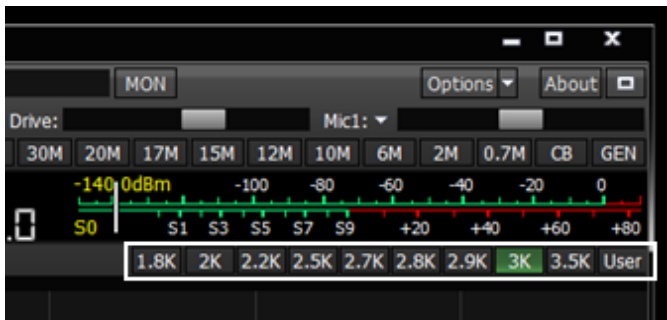

Figure 8.7 – Band pass filter choosing buttons
- In the place showed below, in Figure 8.7, there are receiving signal band pass filter choosing buttons. For each modulation type one can choose required band pass or tune their own band pass by pushing «User»